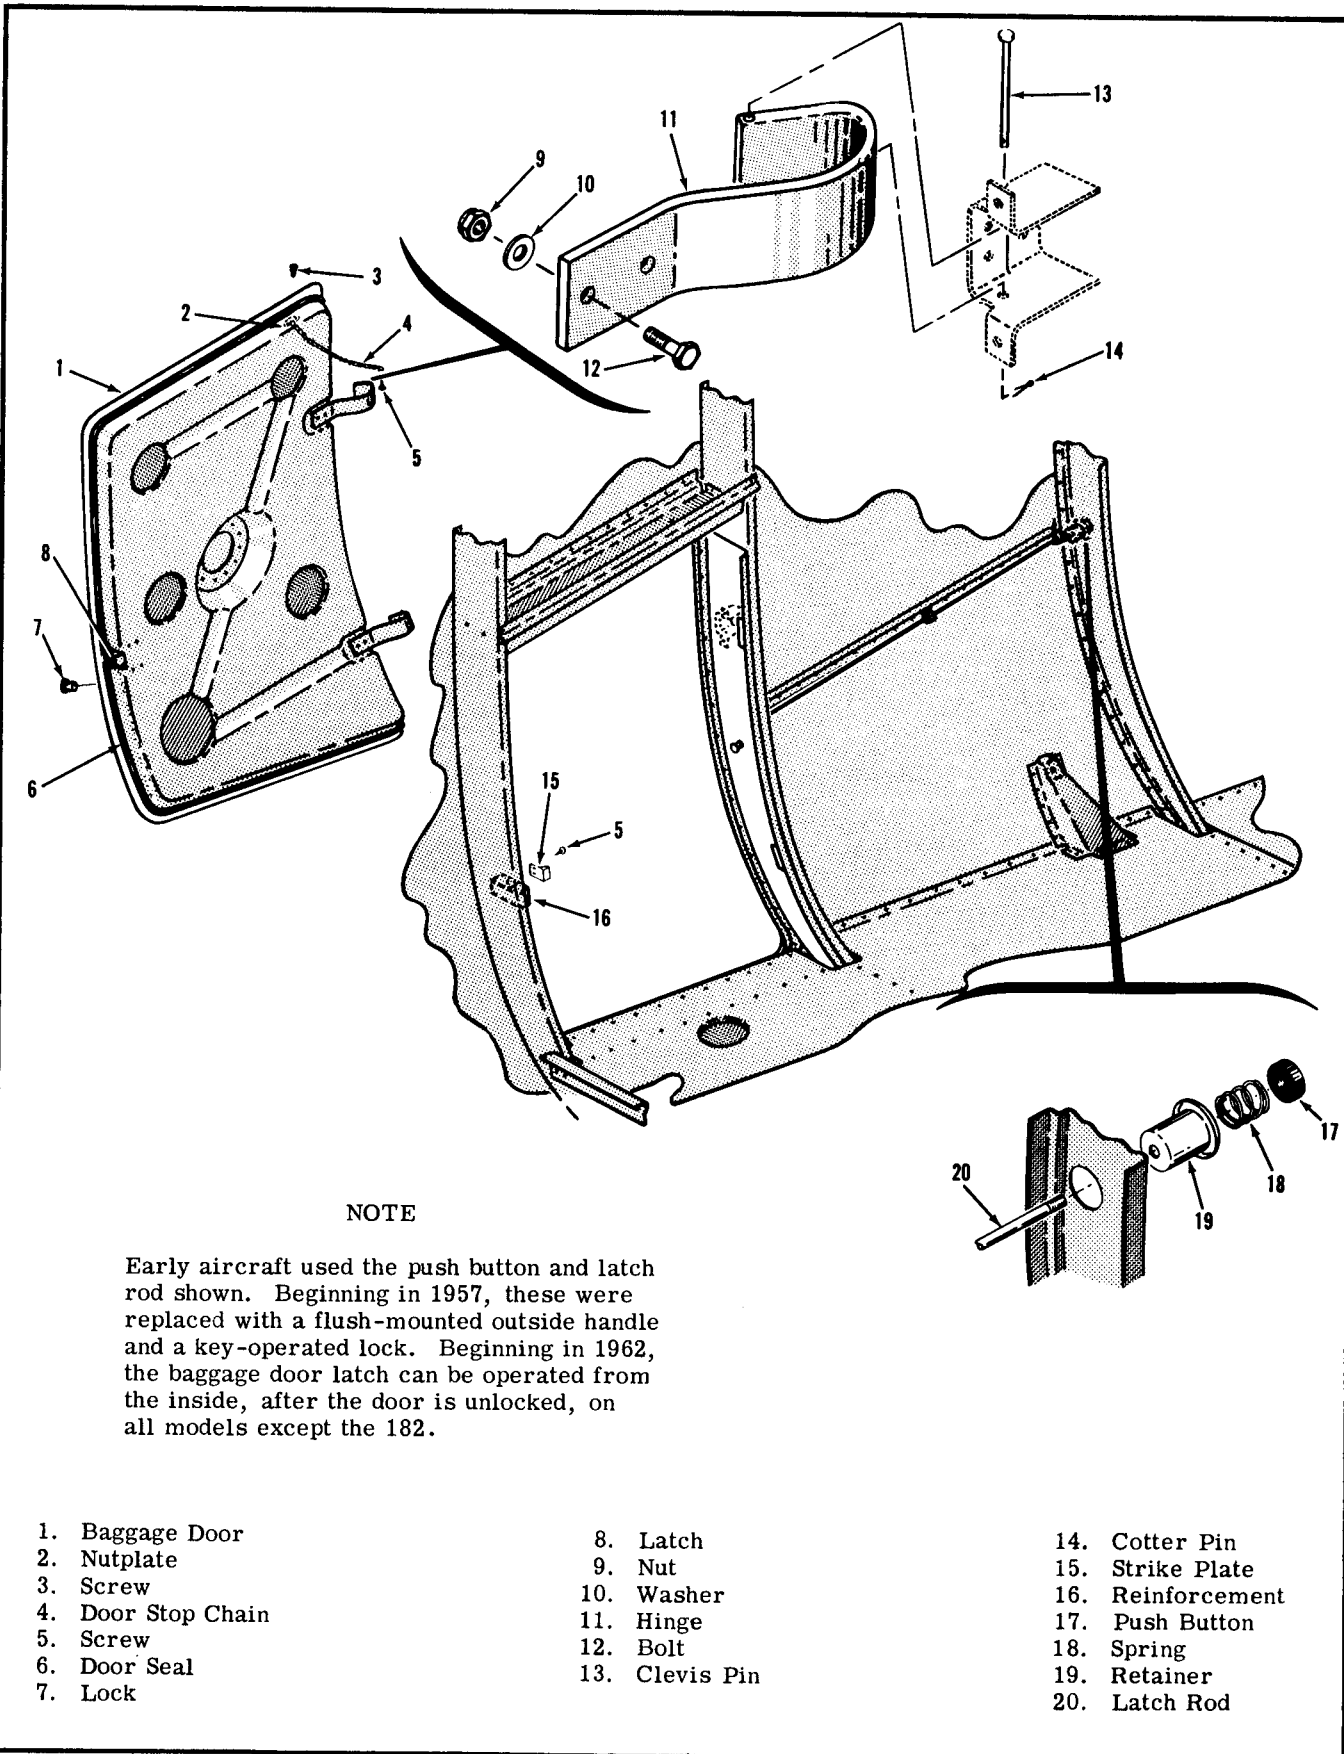

Figure 3-7. Baggage Door
**3-19. REMOVAL AND REPLACEMENT** of the baggage door involves removing the hinge pins and disconnecting the door stop. Typical baggage door installation is shown in figure 3-7.